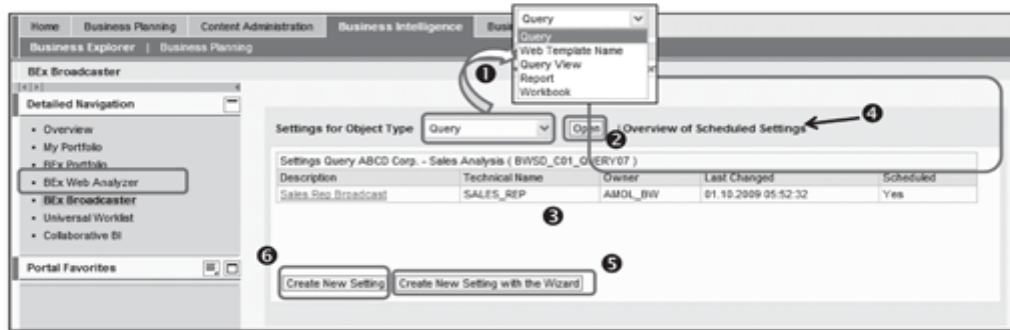

Figure 10.67 BEx Broadcaster Settings
To maintain the broadcasting settings on any BEx object, first select the object type from the dropdown (❶ of Figure 10.67), and then click on the Open button (❷) to select the specific object. This displays a list of the broadcasting settings that are defined and scheduled on the selected object (❸).
To create a new setting, use the Create a New Setting with the Wizard button (❸) of Figure 10.67), which takes you to the same Broadcasting Wizard that is accessed from the Send button of BEx web analyzer. Create New Setting (❹) allows you to create the setting in BEx broadcaster.